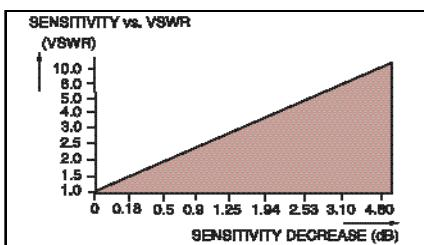

figure 3: Sensitivity vs. VSWR
3. For BER of  $10^{-5}$  @ 4800 baud. Sensitivity is affected by antenna SWR. See figure 3.